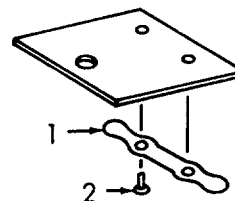

Figure 6-51. Slide Plate, Assembly.
f. *Assembly (Refer to Figure 6-51).*
(1) Place spring (1) into position.
(2) Install two screws (2).